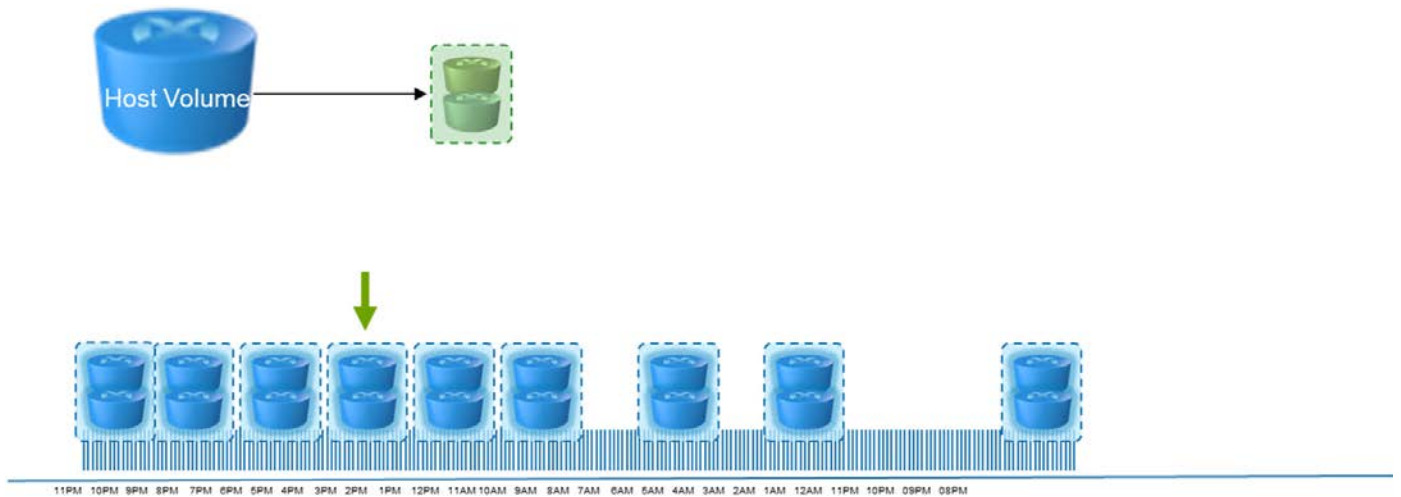

Figure 12. PIT Selection
2. When a failover needs to be performed, select the PIT copy for failover, and execute the failover command, as shown in Figure 12.